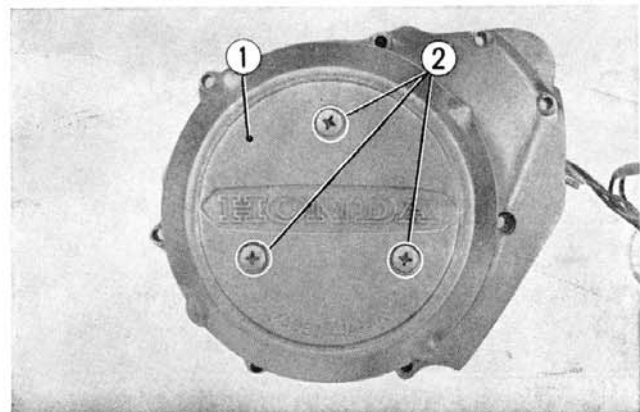

Fig. 8-7 ① Dynamo cover ② 6 mm cross screws
3. Remove the field coil from the dynamo cover by unscrewing the three screws (Fig. 8-7).